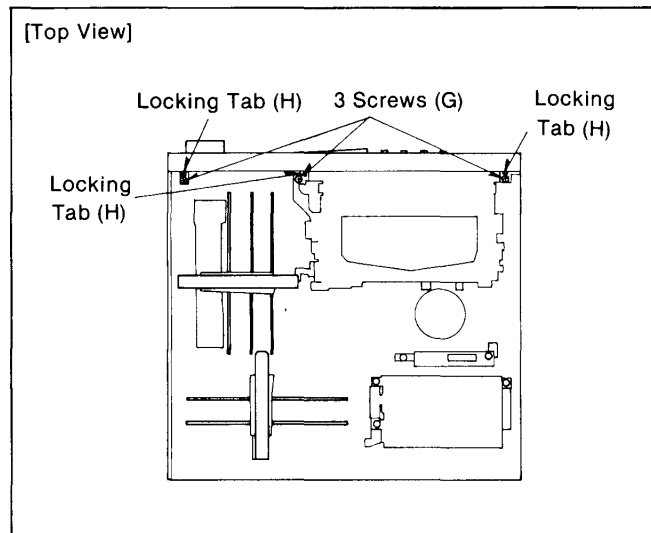
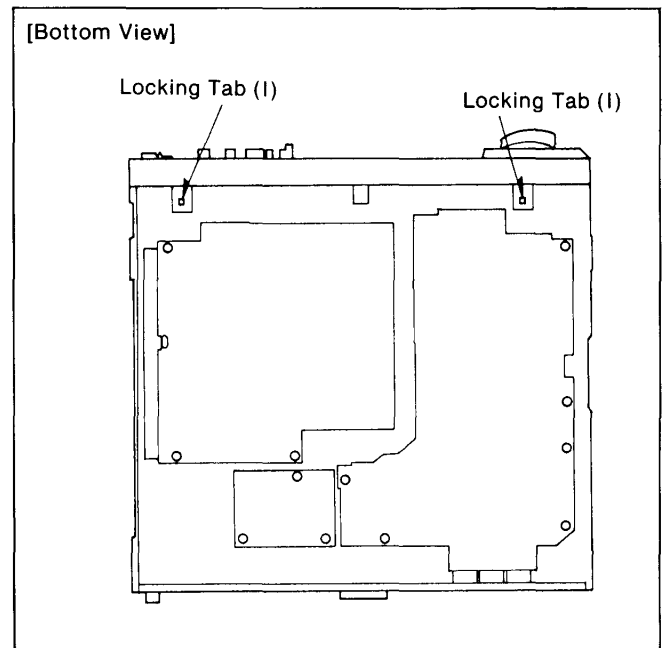

Figure D8
Figure D9
3. Unscrew the 3 screws (G) on the top of the Front Panel (Figure D8).
4. Unlock the 3 locking tabs (H) on the top of the Front Panel and the 2 locking tabs (I) on the bottom of the Front Panel (Figure D8 and Figure D9).